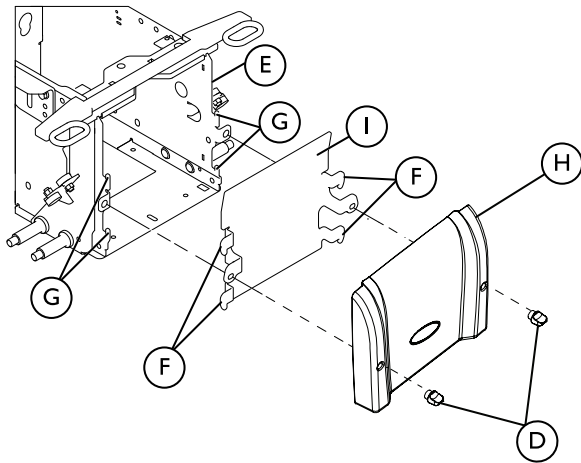

Fig. 9-3 Removing Front Shroud and Battery Door
- Power wheelchairs with 5° or 10° fixed anterior assist: The front shroud and recessed battery door ① are separate, but secured with the same hardware. Refer to *Figure 9-3 Removing Front Shroud and Battery Door, page 74.*